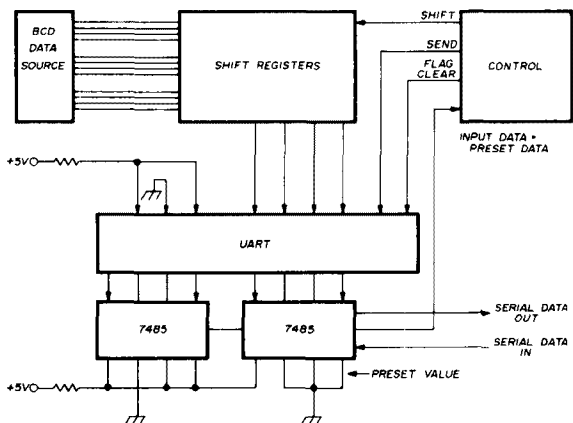
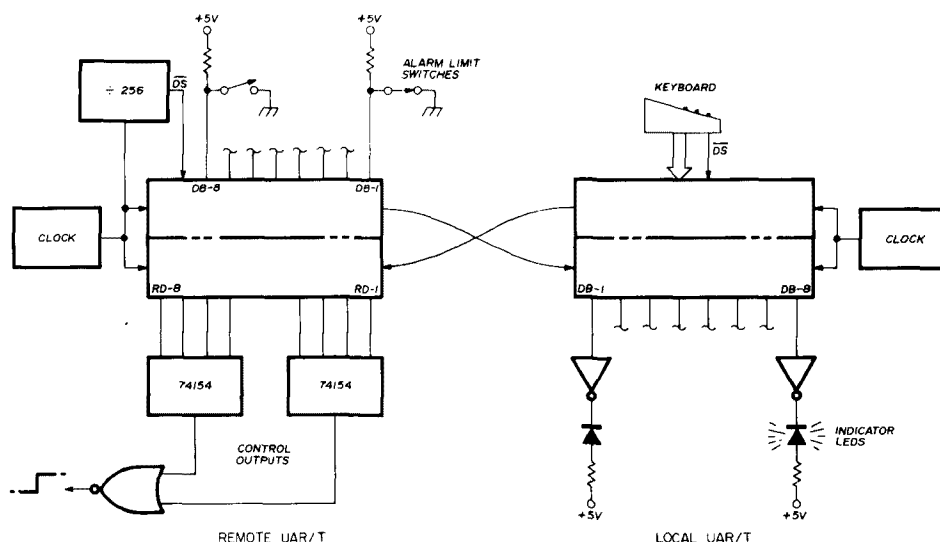

fig. 5. UAR/T used for remote data acquisition. Data output starts when the 7485s find an input equal to the preset value.
fig. 6. UAR/T used for remote sensing of eight inputs and for remote control.
The acquisition and transmission of the data can be controlled by using the receiver section and two SN7485 digital comparators (fig. 5). You can compare an output character from the receiver to a preset eight-bit data word. When the two are equal, a monostable starts the data acquisition/transmission sequence and resets the data-available flag. Using a dozen or so 7400-series chips
The UAR/T data inputs don't have to be limited to encoded data. They can also be used to monitor limit switches on equipment or even burglar alarm switches or fire sensors. Fig. 6 shows how two UAR/Ts can be used to indicate remote switch positions. Open and closed switches enter logic 1s or zeros to the UAR/T, and this data lights the corresponding LEDs at the receiver. Data is continuously transmitted by deriving the \overline{DS} pulse from the clock input.
fig. 5. Simple transistor circuit (A), the dc equivalent of the collector circuit (B), and incorrect voltages which can be analyzed using voltage ratios. Troubleshooting cannot be completed however, without considering the base circuit as shown in fig. 6.
fig. 6. Transistor audio amplifier (A), dc equivalent of the base circuit (B), dc equivalent of the collector circuit (C), and the complete equivalent including collector current dependence upon base current (D).
fig. 7. Transistor audio amplifier circuit of fig. 5 with incorrect operating voltages. Although the emitter voltage has increased in both of these circuits, the cause is different in each case as discussed in the text.